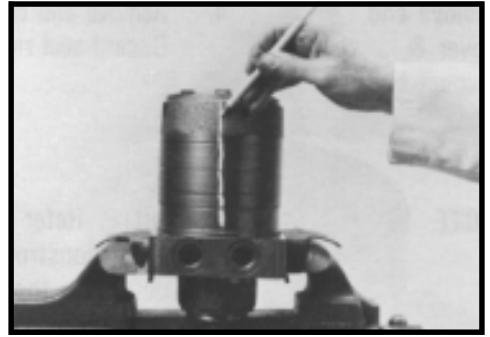

Figure 3
2. Scribe an alignment mark down and across the Torqmotor™ components from end cover (2) to housing (18) to facilitate reassembly orientation where required. Loosen two shuttle or relief valve plugs (21) for disassembly later if included in end cover. 3/16 or 3/8 inch Allen wrench or 1 inch hex socket required. SEE FIGURE 3 & 4.